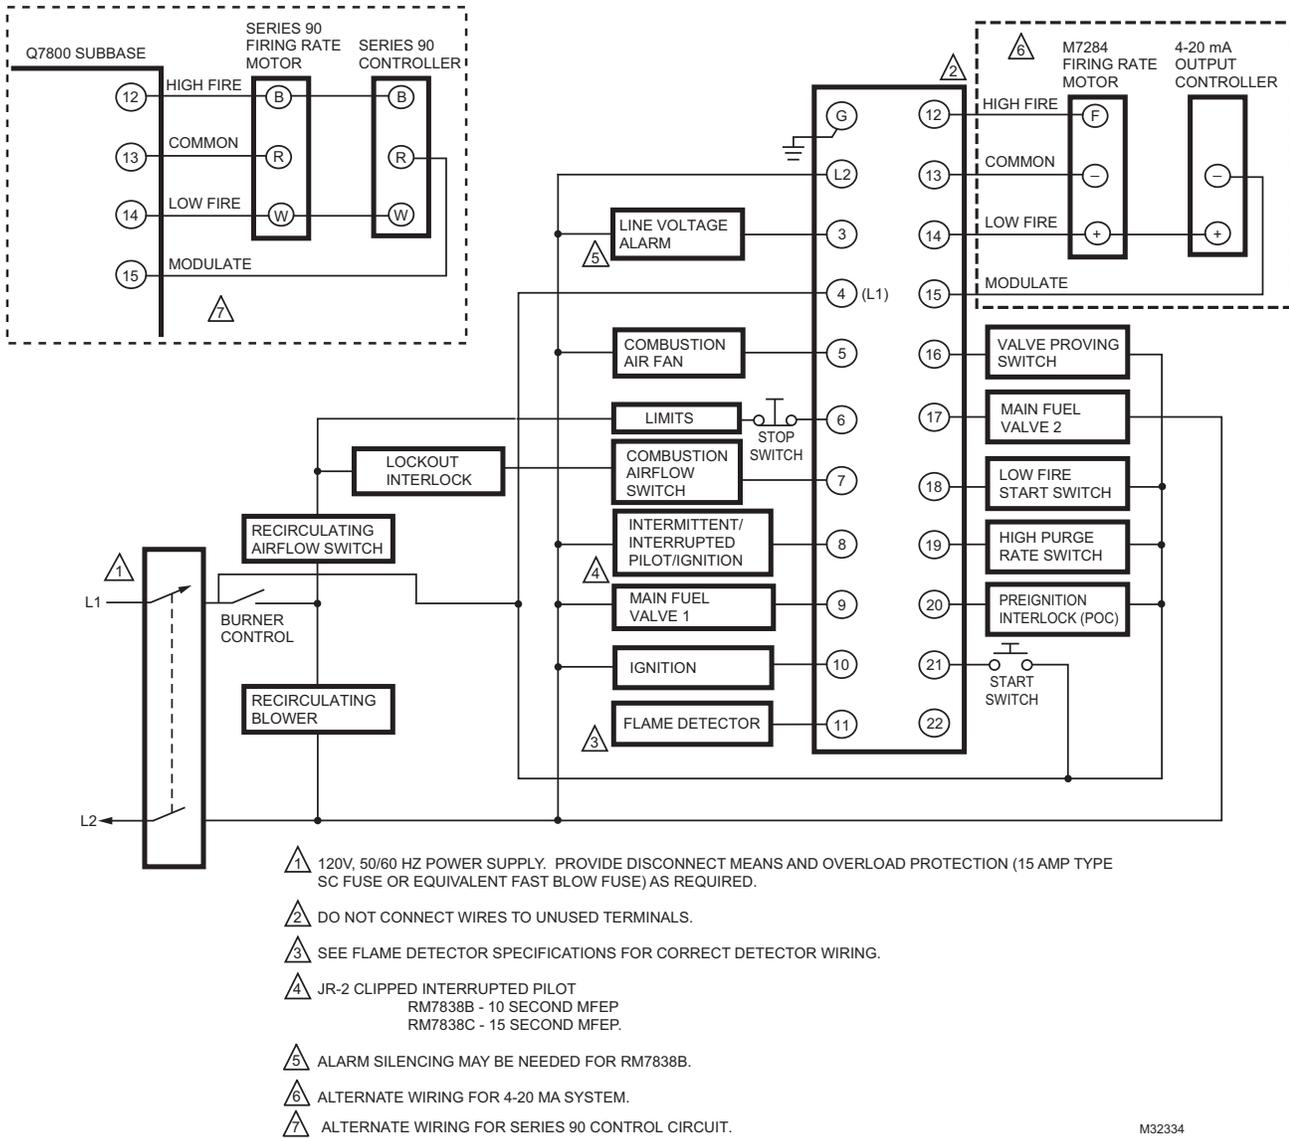

Fig. 3. Wiring subbase for RM7838B,C.
1. *Wiring connections for the relay modules are unique; refer to Fig. 3 or the appropriate Specifications for proper subbase wiring.*
1. Refer to Fig. 3 for proper subbase wiring.